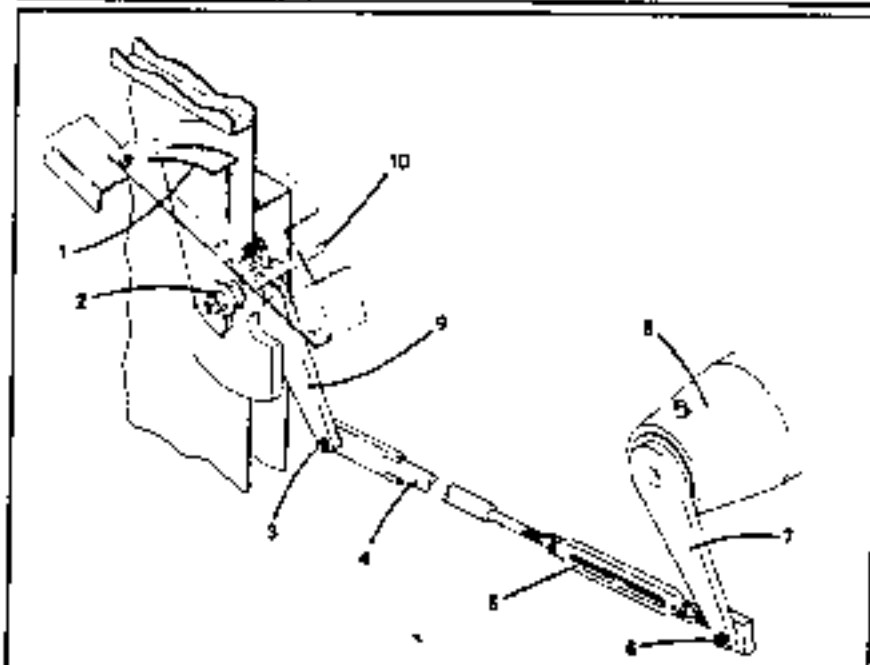

Fig. J-24
- Adjust boom angle indicator as follows: (Refer to Fig. J-24.)
- Boom up until boom foot lever arm (7) is vertical. Check by scribing a line from the centerline of boom foot pin (8) to center of pin (6). Use plumb glass on a level or a plumb bob to check for vertical.
- Remove cover panel outside operator's cab to expose readout lever arm (9). Adjust turnbuckle and jam nut (5) until readout lever arm (9) is vertical. Check by scribing a line through the centerlines of capscrew (2) and pin (3). Check by same method as in step (b) above.
- Having completed steps (a) through (c) above, tighten jam nuts on turnbuckle (5).
- Boom up to minimum radius and check boom angle with an inclinometer placed along the longitudinal centerline of the boom base section. Loosen capscrew (2) and adjust readout drum (1) to read the same as the inclinometer and tighten capscrew (2).
- Check readout drum for 0° reading. If reading is not 0°, arms (7) and (9) are not parallel. Repeat adjustment procedure above.